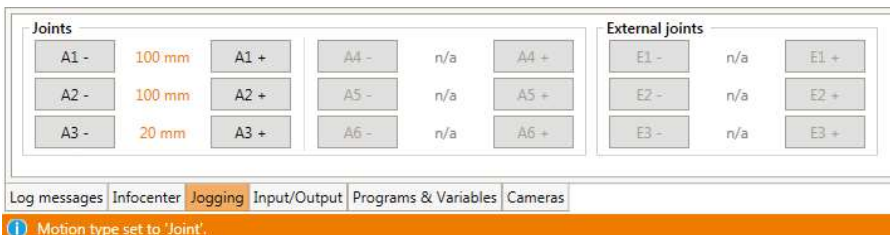

Figure 7.6: The software buttons for "Joint" movements in "Jogging" tab. In both cartesian modes, the buttons change to X, Y, Z, A, B and C.
- "Joint": A click on A1 to A3 moves the corresponding robot axis (if available). E1-E3 move the external joints. (Figure 7.6).